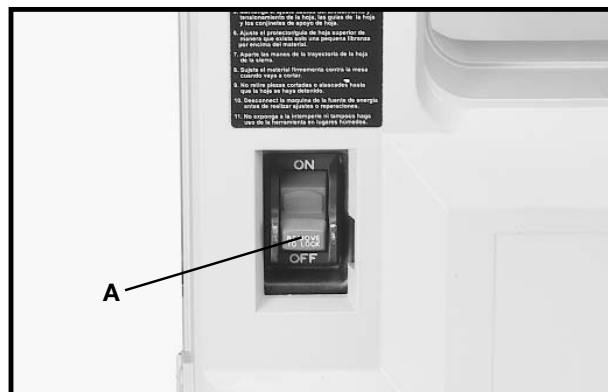

Fig. 15
The switch (A) Fig. 15, is located on the front side of the band saw. To turn the saw “ON” move the switch (A) up to the “ON” position. To turn the saw “OFF” move the switch (A) down to the “OFF” position.